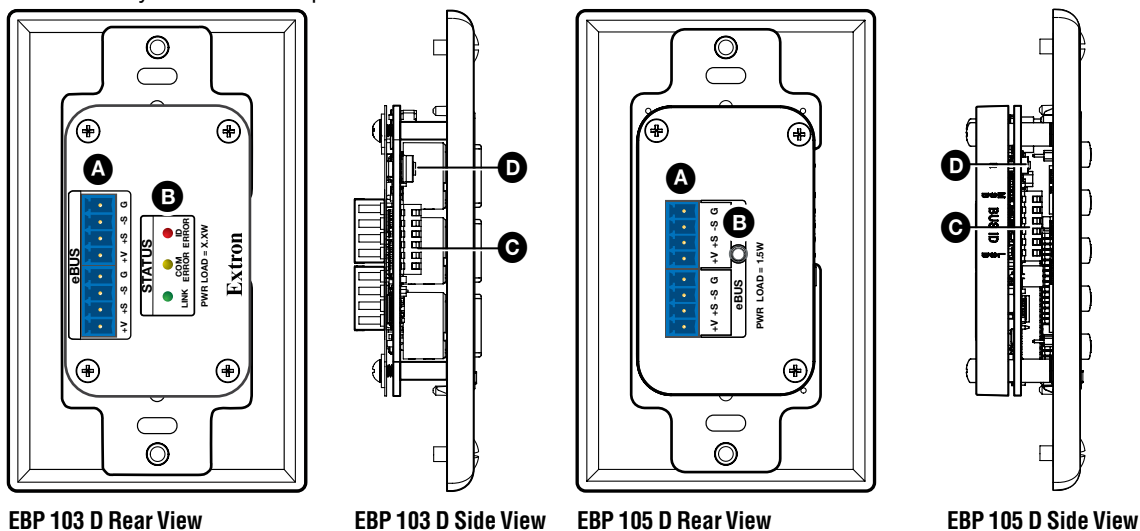
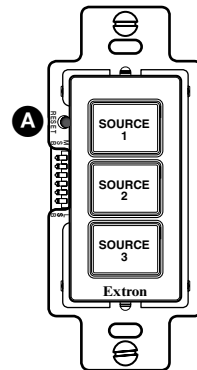

Figure 1. EBP 105 D and EBP 103 D Rear and Side Views.
Figure 2. EBP 103 D with Front Panel Removed
Figure 1 shows the side and rear views of the EBP 105 D and the rear view of the EBP 103 D. The EBP 105 D side features are very similar for all EBP decorator-style models except the EBP 103 D. The EBP 105 D rear features are the same for all EBP decorator-style models except the EBP 103 D.
The Reset button (see figure 2, **A**) for the EBP 103 D can only be accessed from the front of the unit, after removing the frame (see Remove the frame and bezel on page 4).
2. While reconnecting power, press and hold down the **Reset** button (see figure 1, **D** or figure 2, **A**).